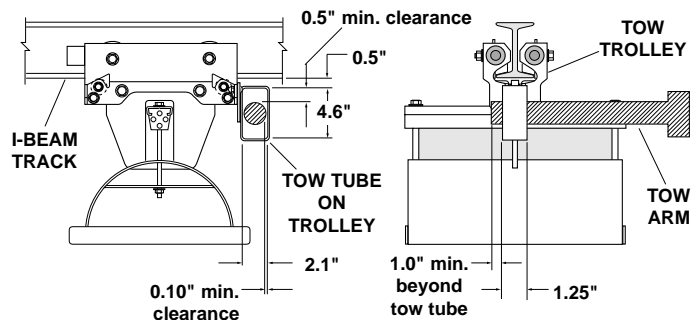

FIGURE 9–TOW ARM CLEARANCE
8. Set clearances for **TOW** trolley. NOTE: Tow arm is supplied by customer and must work to minimum clearances of rectangular tube. Check tow arm movement throughout total system travel to insure it does not pull out of rectangular tube in tow trolley and that no upward or downward forces are transmitted to tow trolley. See Fig. 9.